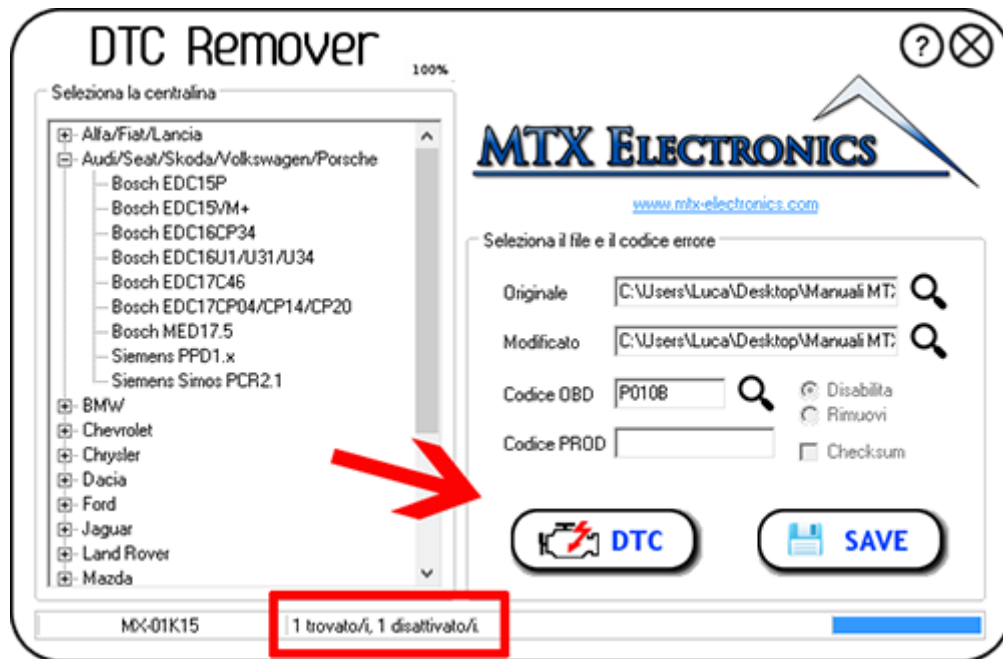
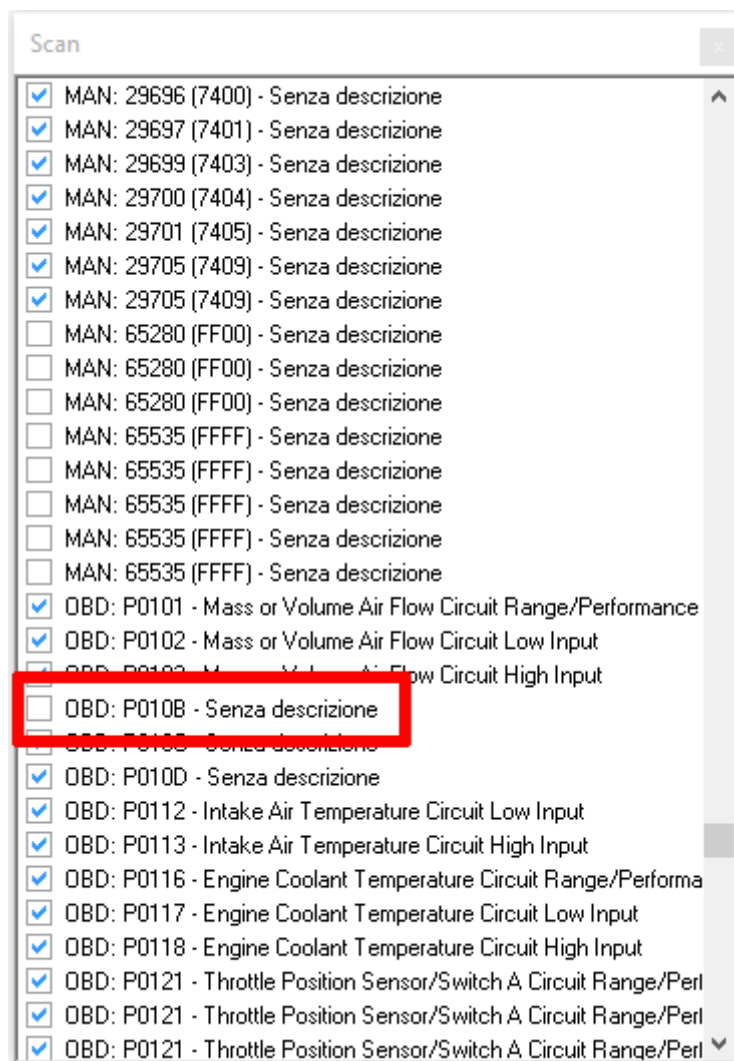

Figure 11
Figure 12
7. Added error code press the DTC button to process the file and after a while we will see in the info-bar an expression such as in Figure 11 , if you click again on the SCAN button will see that the selected first error no longer has the flag displayed (Figure 12) demonstrating that the error was disabled;